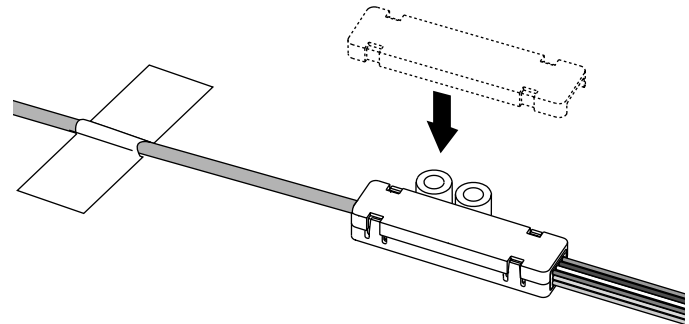

Figure 28
**9.9** Align the top of the BTF body with the bottom and hand press them together until the top snaps into place (Figure 28).